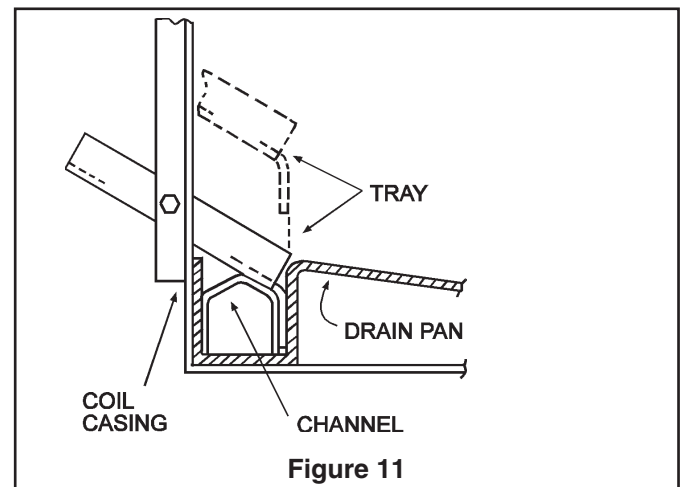

Figure 11
g. There is a splash guard packaged with the coil. This guard is for horizontal left coil installation only. The guard has a bend which is inserted into the front channel of the horizontal drain pan on the outlet air side of the coil case. The guard is then rotated downward until it rests in the drain pan. One sheet metal screw is driven through the coil case duct flange on the front side and into the splash guard side hole. See Figure 11.